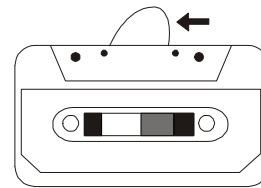
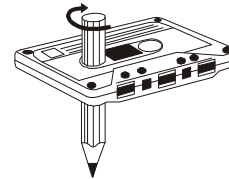

Fig. 1
Fig. 2
- Check that there are no loose layers of tape visible through the cassette center window (see Fig. 1). Take up any loose layers, using a pencil or hexagonal barrelled ballpoint pen, before inserting the cassette into the machine (see Fig. 2).
- If the cassette feels “tight” while performing operation shown (see Fig. 2), the tape may be jamming due to “ridges” formed in the winding of the tape (visible through the center window). These may be removed, in most cases, by fast winding of the cassette from one end to the other and back again.